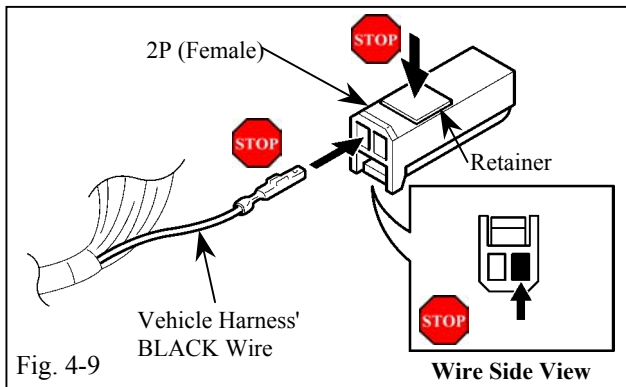

Fig. 4-9
- (n) Insert the terminal at the end of the vehicle harness' BLACK wire into the right side opening of the empty 2P connector. (Fig. 4-9)
- (1) Turn the connector so the wire faces you and the tab is on top.
- (2) Verify the correct opening is chosen.
- (3) Verify the terminal is inserted and seated properly.
- (4) The terminal should not come out when pulled lightly from the back. If the terminal comes out, push it in further until securely seated.
- (o) Close the 2P connector's retainer. (Fig. 4-9)